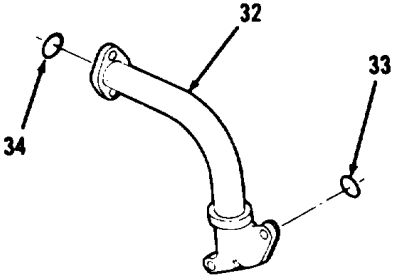

Figure 5-54.
- 3. Install new preformed packings (34 and 33) in tube (32, Figure 5-54).